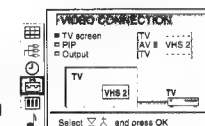

Fig. 48
- 1 Select the symbol for »Video Connection« with  $\Delta$ + or  $\nabla$ - and press OK. The VIDEO CONNECTION menu appears. (See Fig. 48)